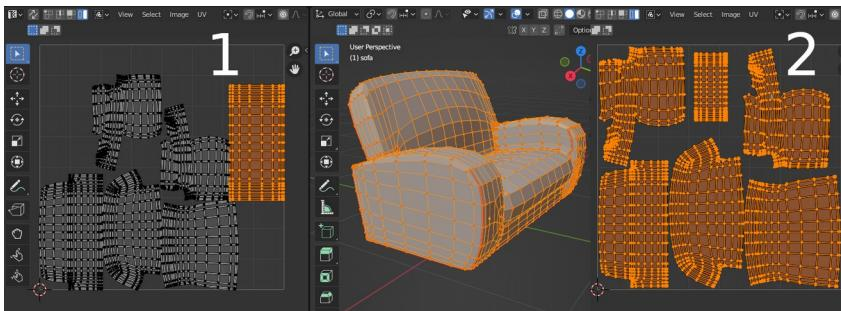

Figure 8-11 Unwrapping the main UV map
12. Define the seams for the UV unwrapping. Most of these can be tucked into creases or on edges at the back or bottom, however you will need one or two in visible places on the arms to prevent distortion of the UV mesh when it is unwrapped. You will be able to get a better layout if your seams cut the surface into islands so you can move and scale each one separately. The seams in Figure 8-11 produce islands for each arm, the seat, the back and the bottom. As the bottom will not normally be visible, it can be shrunk, after unwrapping, to leave more room on the image for the rest of the sofa.
13. Unwrap the UV mesh and adjust it to make the most use of the area. Use the tab right at the top of the window to change to the UV Editing preset for the active workspace, then in the 3D Viewport area hit **UV ▶ Unwrap**. You should get a result similar to Figure 8-11 stage 1.